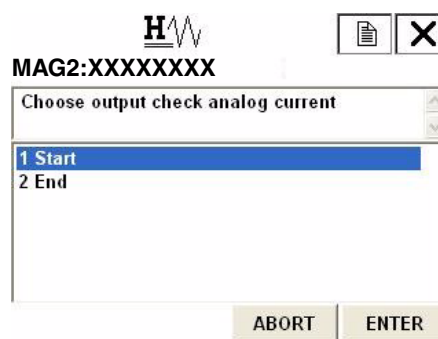

Figure 138.
2. Figure 138 then appears. Choose Start to start fixed value of analog current output, and then press F4 (ENTER).